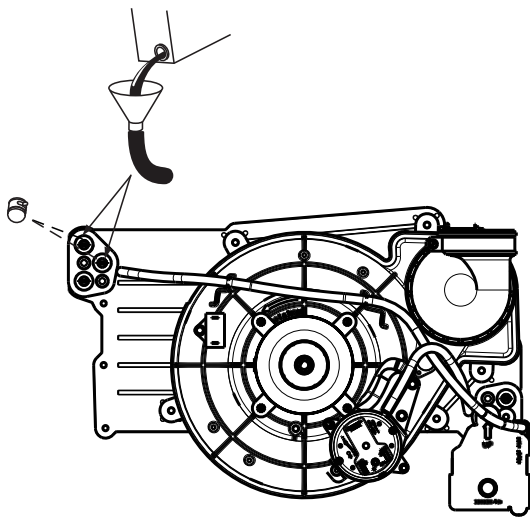

Fig. 61 – Priming Condensate Trap
1. Remove upper and middle collector box drain plugs opposite of the condensate trap. See Fig. 61.
2. Connect field-supplied 5/8-in. (16 mm) ID tube with attached funnel to upper collector box drain connection, see Fig. 61.